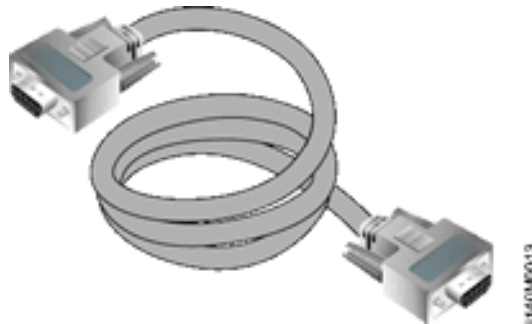

Figure 1-8 Null Modem Cable
- **Null modem cable** - An asynchronous RS-232 null modem cable (Figure 1-8) is required to configure product network addresses and acquire event log information through the product's serial port. The cable has nine conductors and DB-9 female connectors.